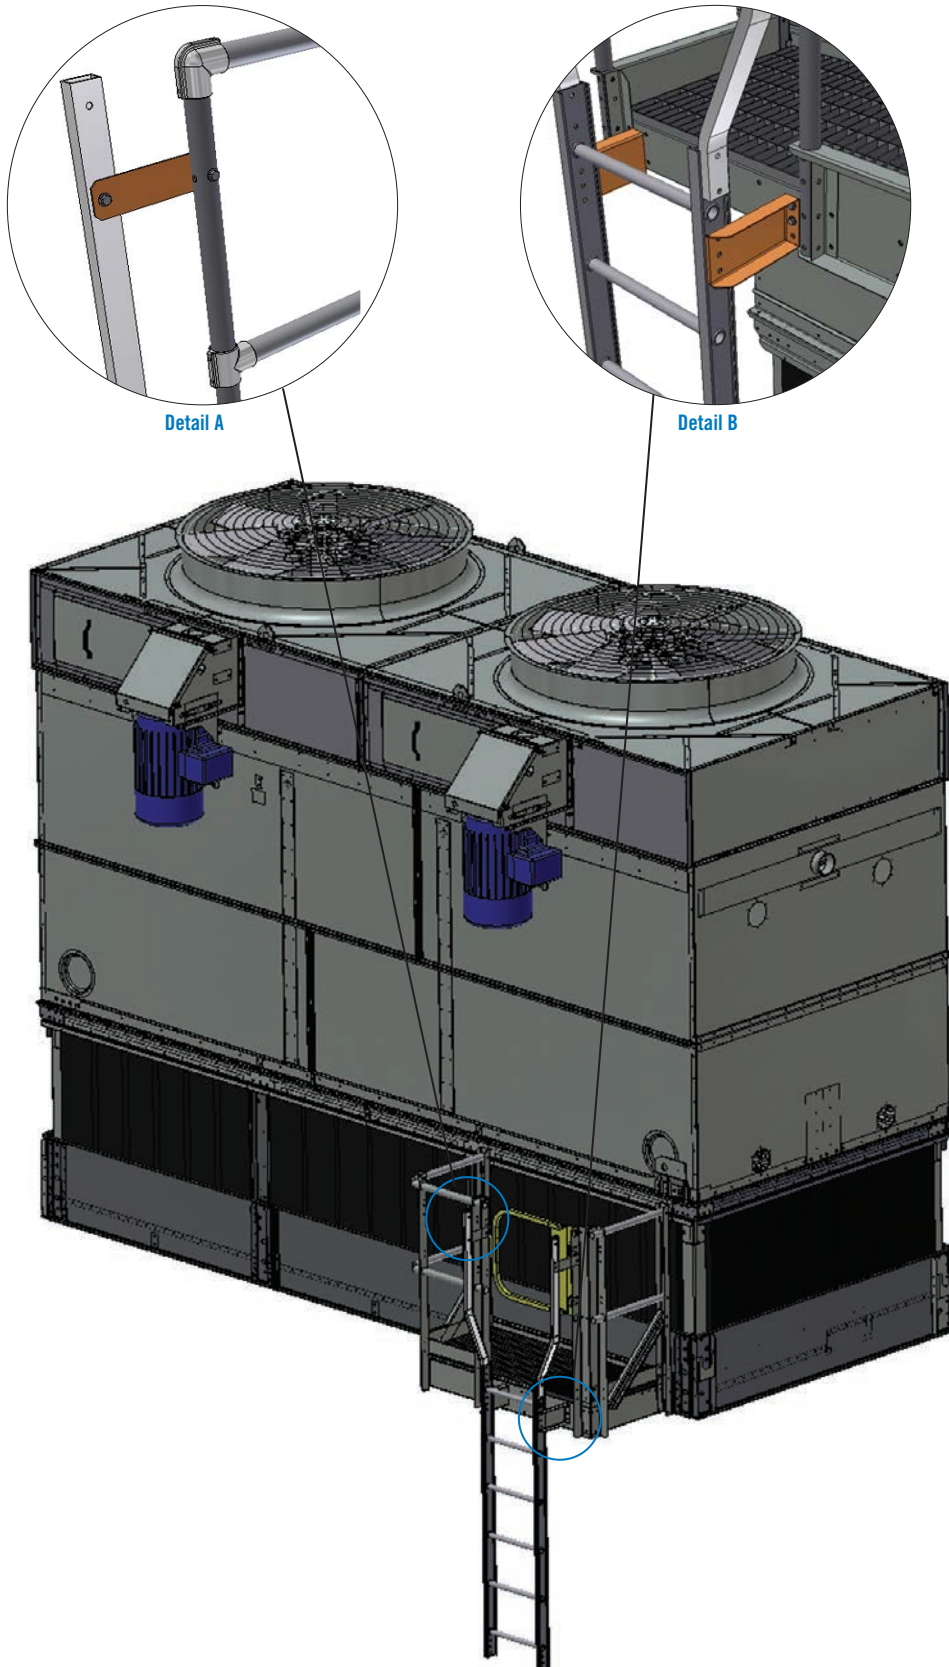

Figure 44. Basin Level Platform Ladder Installation
1. Attach the ladder to the platform utilizing provided bolts as shown in **Detail A** and **B** in **Figures 44**. When securing ladder to unit, orient all bolt heads inside of the ladder and use flatwashers and locknuts on all fasteners.